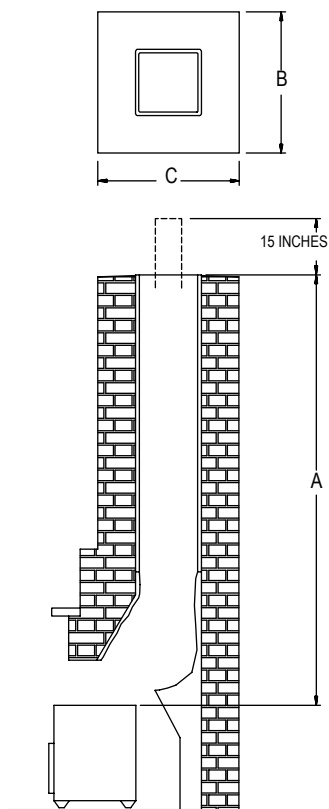

Figure 25
**(a) Measurements.** Measure and record the dimension as shown on **Figure 25** (Height "A").